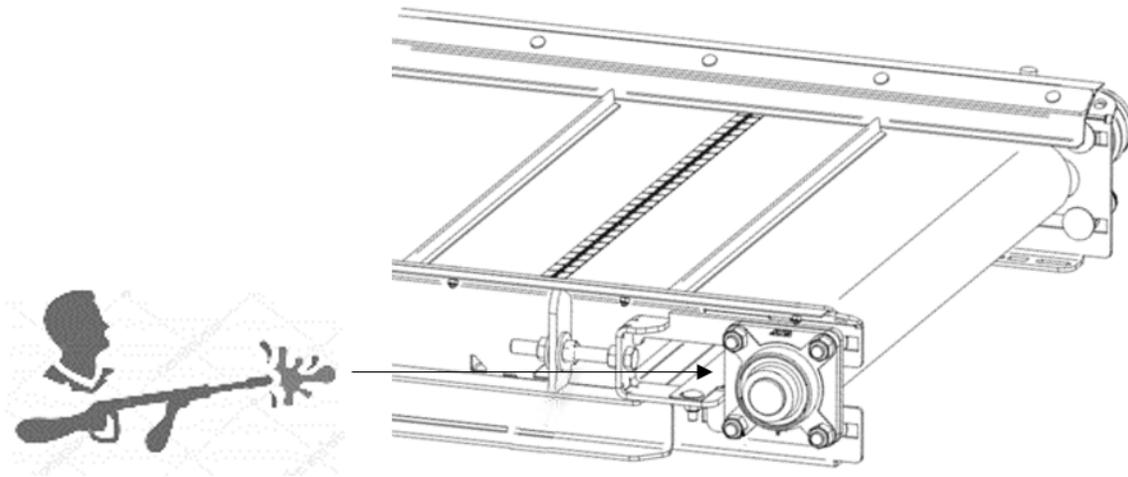

Figure 64 — Openings Provided for Cleaning the Conveyor
2. Using the provided openings (see Figure 64), direct the spray directly onto the conveyor pulleys. The excess water and dirt should come out the other side of the conveyor.